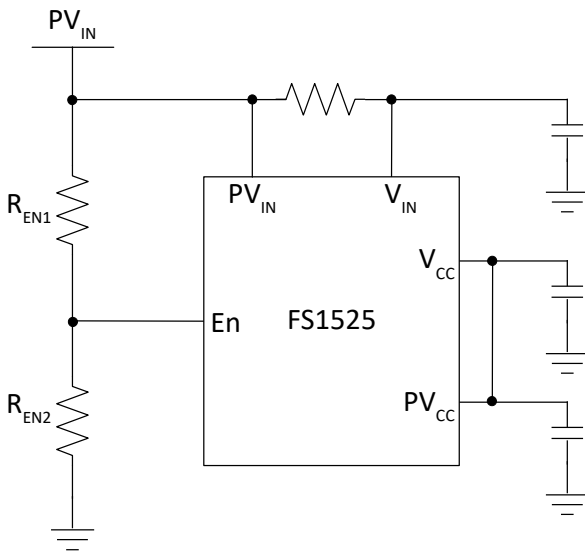
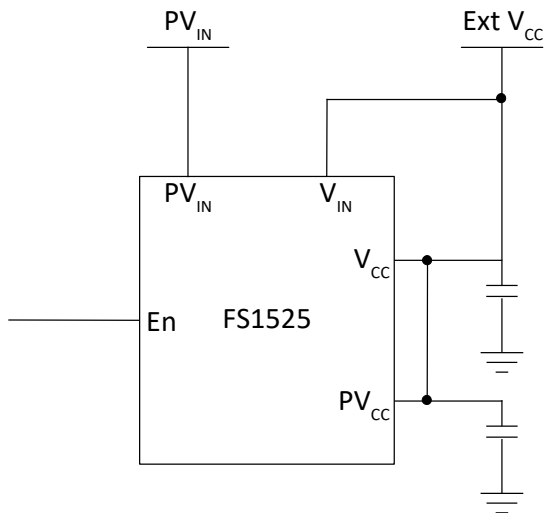

Figure 5 *Single supply configuration: internal LDO regulator, adjustable PV_{IN} UVLO*
Figure 6 *Using an external bias voltage*
The FS1525 has an integrated Low Drop-Out (LDO) regulator providing the DC bias voltage for the internal circuitry. The typical LDO regulator output voltage is 5.2V. For internally biased single-rail operation, the V_{IN} pin should be connected to the PV_{IN} pin (Figure 5). If an external bias voltage is used, the V_{IN} pin should be connected to the V_{CC} pin to bypass the internal LDO regulator (Figure 6). There is a separate pin to provide bias for the drivers (PV_{CC}); this should be connected to V_{CC} in the application circuit. It is recommended that V_{IN} should have a minimum slew rate of 0.06V/ms. Note that PV_{IN} has internal undervoltage detection that latches the device if PV_{IN} drops below 4.2V.
- It can be used to implement a precise input voltage UVLO. The input of the En pin is derived from the PV_{IN} voltage by a set of resistive dividers, R_{EN1} and R_{EN2} (Figure 5). Users can program the UVLO threshold voltage by selecting different ratios. A useful feature that stops the FS1525 regulating when PV_{IN} is lower than the desired voltage, this may be used for finer control over the PV_{IN} UVLO voltage levels than is provided by the VIN_ON/VIN_OFF commands.